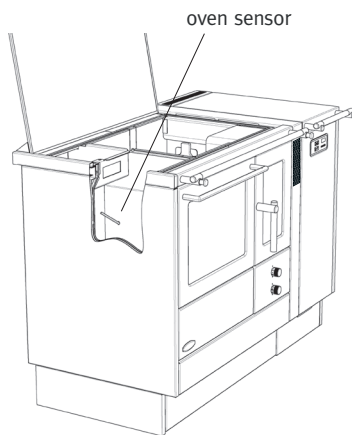

Fig. 62
**CAUTION!** The oven sensor for the pellets module protrudes at the side from the oven protection (Fig. 62).